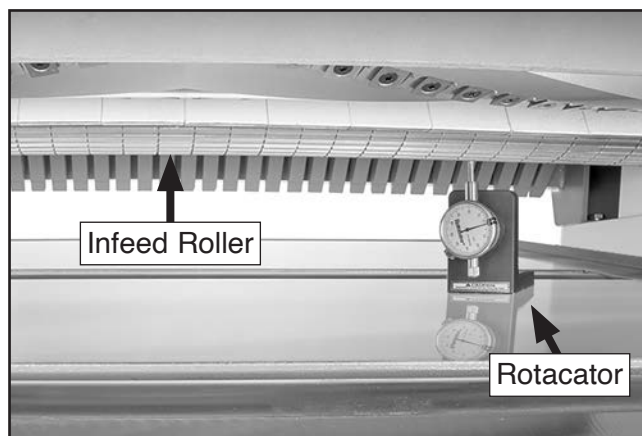

Figure 96. Rotacator placed underneath left side of infeed roller (shown from rear of machine).
6. Position Rotacator/dial indicator under left side of infeed roller (**Figure 96**).